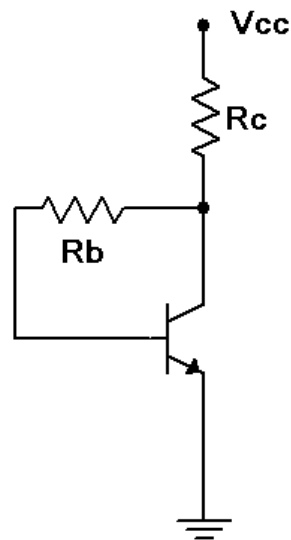

Figure 1
1. Consider the circuit of Figure 1 using $V_{cc} = 12$ volts, $R_b = 220\text{ k}\Omega$ and $R_c = 1\text{ k}\Omega$. Determine the ideal end points of the DC load line and the Q point, and record these in Table 1.
3. Build the circuit of Figure 1 using $V_{cc} = 12$ volts, $R_b = 220\text{ k}\Omega$ and $R_c = 1\text{ k}\Omega$. Measure the base, emitter and collector voltages and record them in the first row of Table 2 (Experimental).